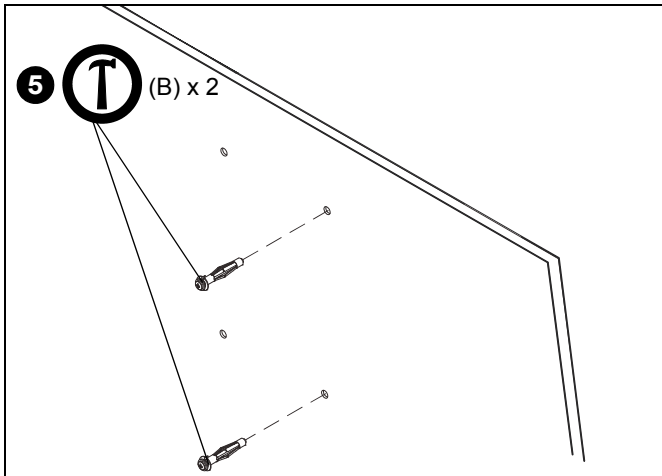
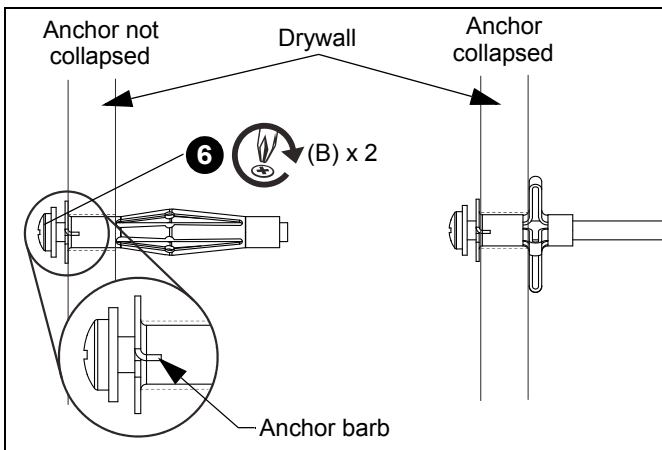

Figure 3
Figure 4
- Gently tap anchor (B) into anchor hole. Anchor bars should be fully engaged in drywall. (See Figure 3) and (See Figure 4)
- Using Phillips screwdriver, tighten anchor screws until anchors have fully collapsed against back side of drywall. (See Figure 4)